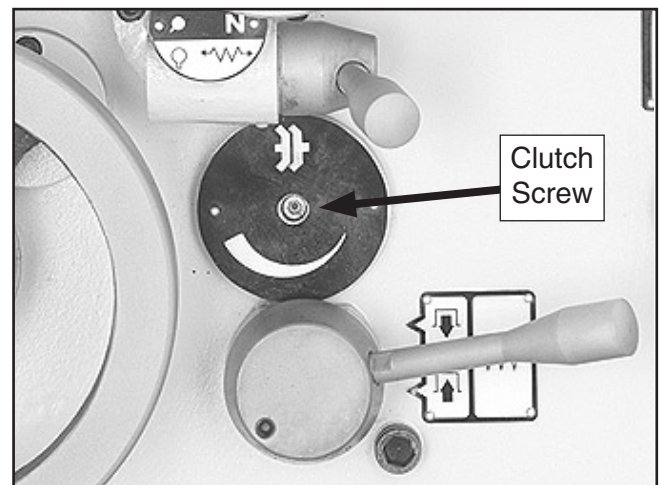

Figure 105. Feed clutch.
1. Using a 5mm hex wrench, turn the center cap screw clockwise to increase the clutch holding power, and turn counterclockwise to decrease the clutch holding power (**Figure 105**).